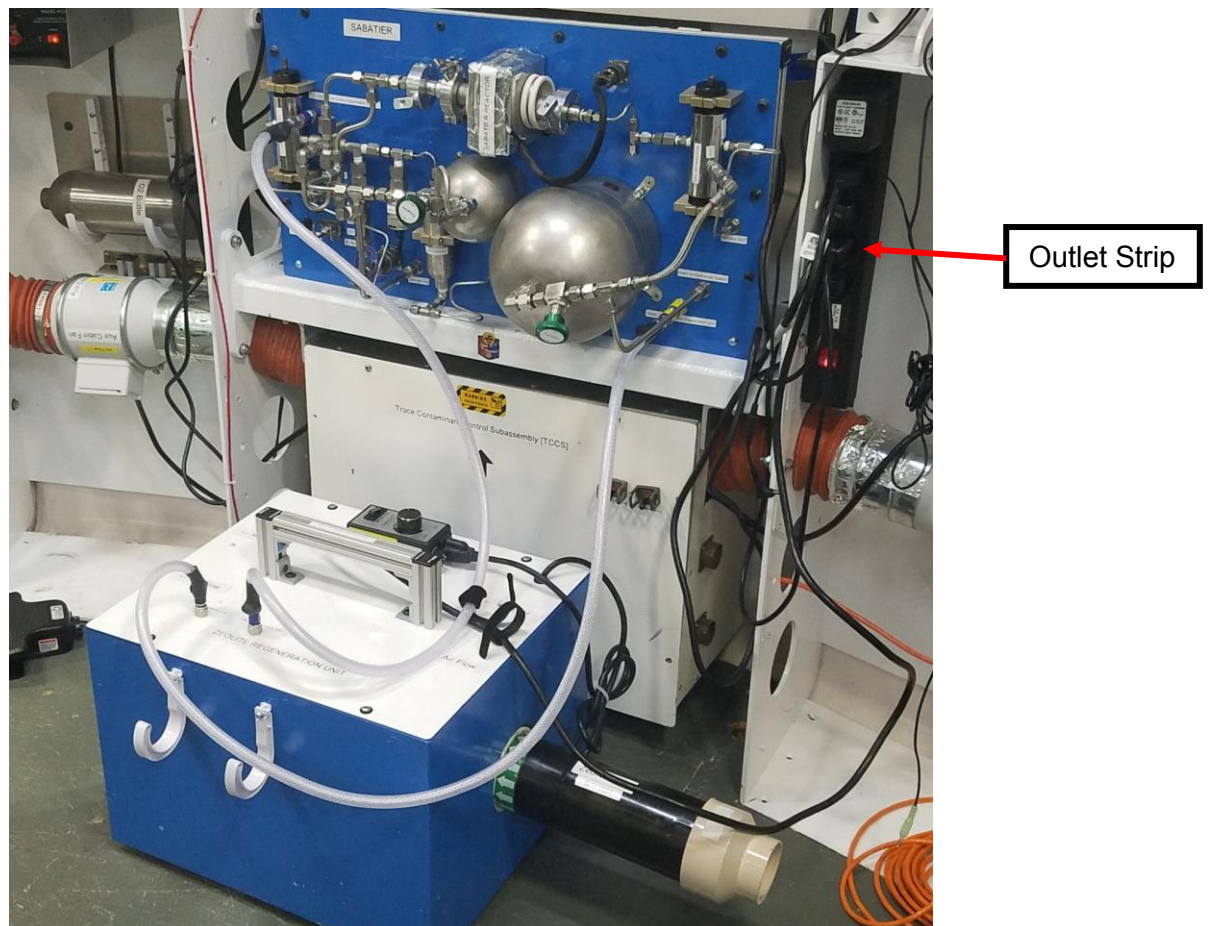

Figure 7: ZRU Connected to Sabatier
- 4.9 Unfurl power cable and plug power cable into outlet strip on right of Sabatier (see Figure 7).